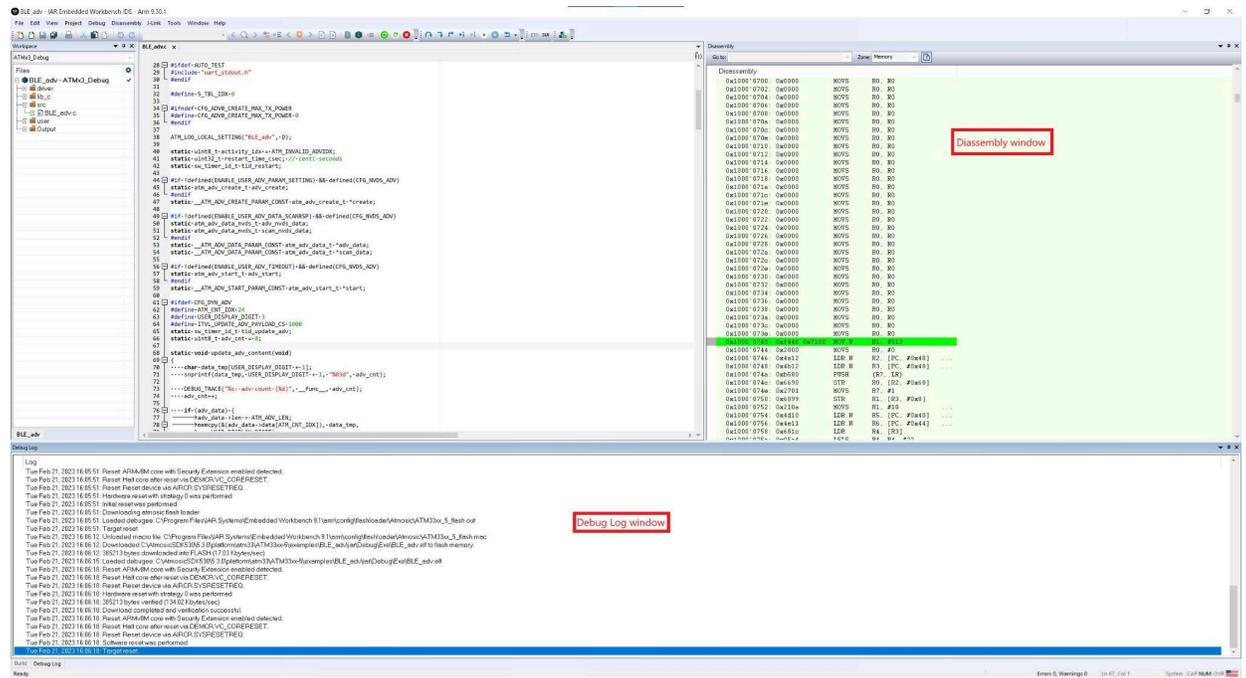

Figure 10 - Runtime Debug
- b) Runtime debug, see Figure 10.